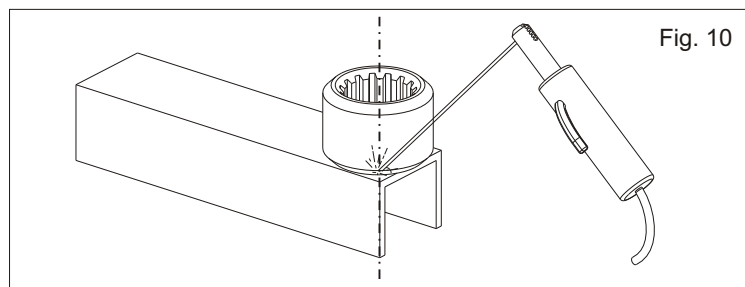

Fig. 10
3.3. solder the bush carefully to the iron to closely follow the perpendicularity with the rotation axis (Fig. 10)